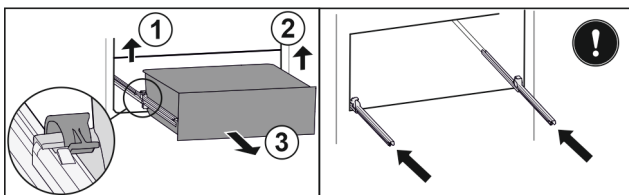

Fig. 129
- ▶ Lift left clamp and simultaneously pull drawer forwards on the left. Fig. 129 (1)
- ▶ Lift right clamp and simultaneously pull drawer forwards on the right. Fig. 129 (2)
- ▶ Remove drawer to the front. Fig. 129 (3)